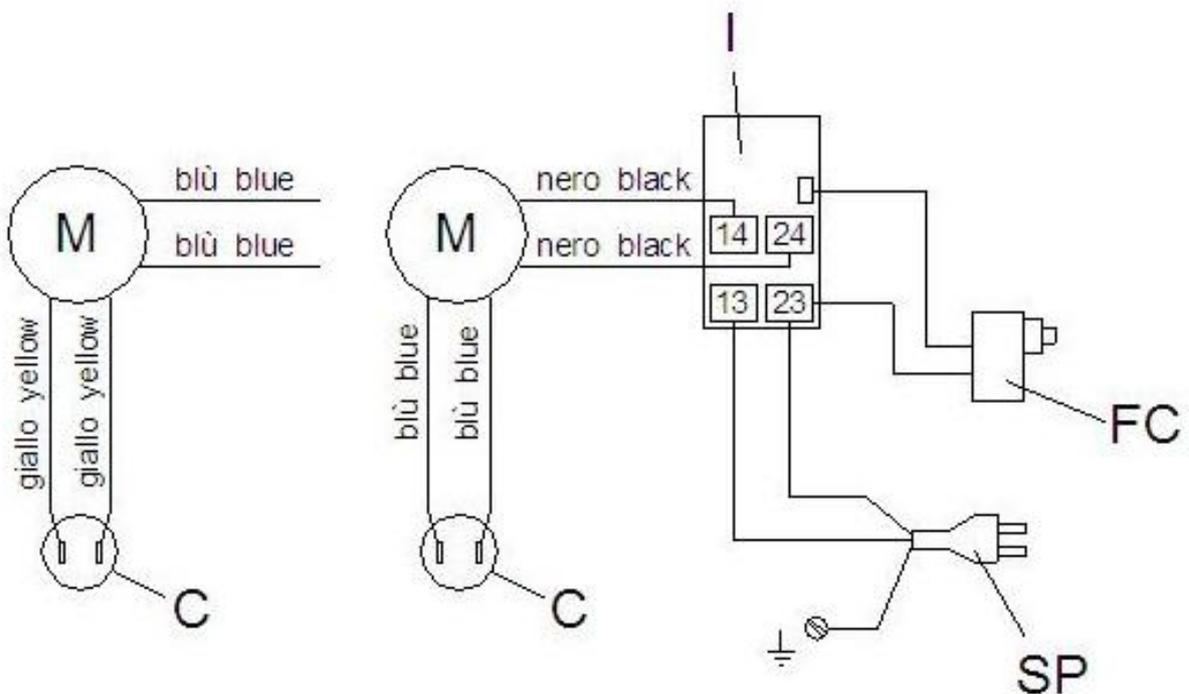

Figure 14 - 230 V single phase wiring diagram with SCHUKO plug
6. (Fig. 14) once sharpening has been completed, switch the machine off and put the sharpening device back in its original position, following the procedure in reverse order.